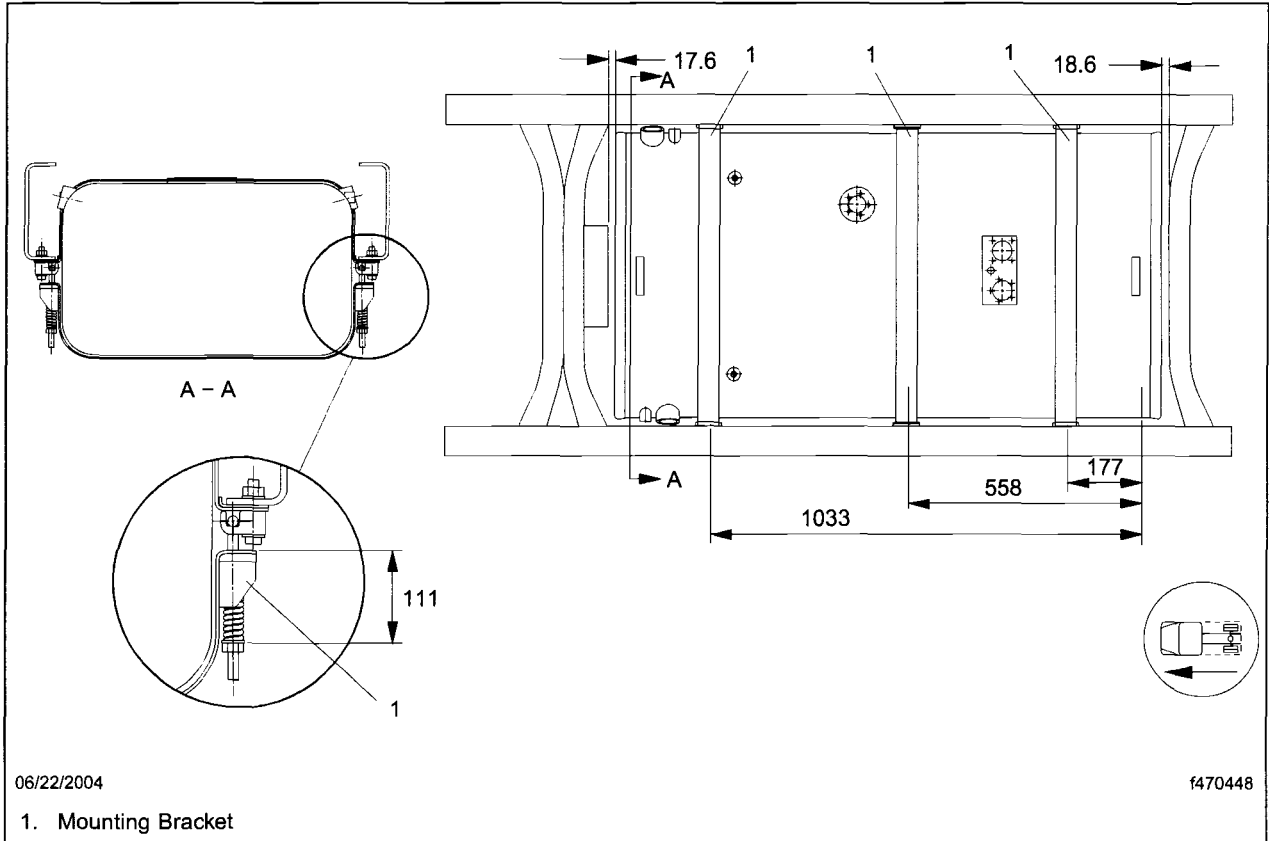

Fig. 3, Upper Mounting Bracket Installation (measurements are in millimeters [mm])
6. Install all of the upper mounting brackets and tighten 56 lbf·ft (76 N·m). See **Fig. 3**.
10. Install the front and back lower support straps on the tank and tighten. Lower the jack and install the center support strap. Adjust the spring compression. See **Fig. 3**.